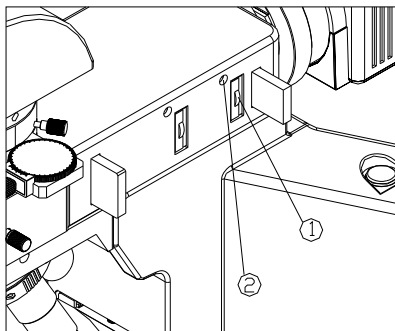

Fig.27
The changing direction of the aperture diaphragm is as same as the field diaphragm, adjust its size by the aperture diaphragm turntable ①. Adjust the two aperture diaphragm centering screws ②, to move the image of aperture diaphragm to the center of the aperture (See Fig. 27).